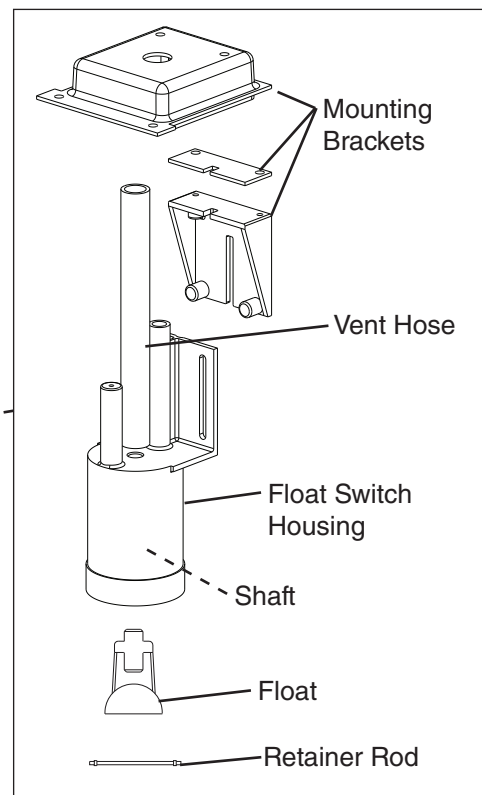

Fig. 4
- 5) Remove the retainer rod from the bottom of FS housing, then remove the float. Be careful not to bend the retainer rod excessively when removing it. See Fig. 4.